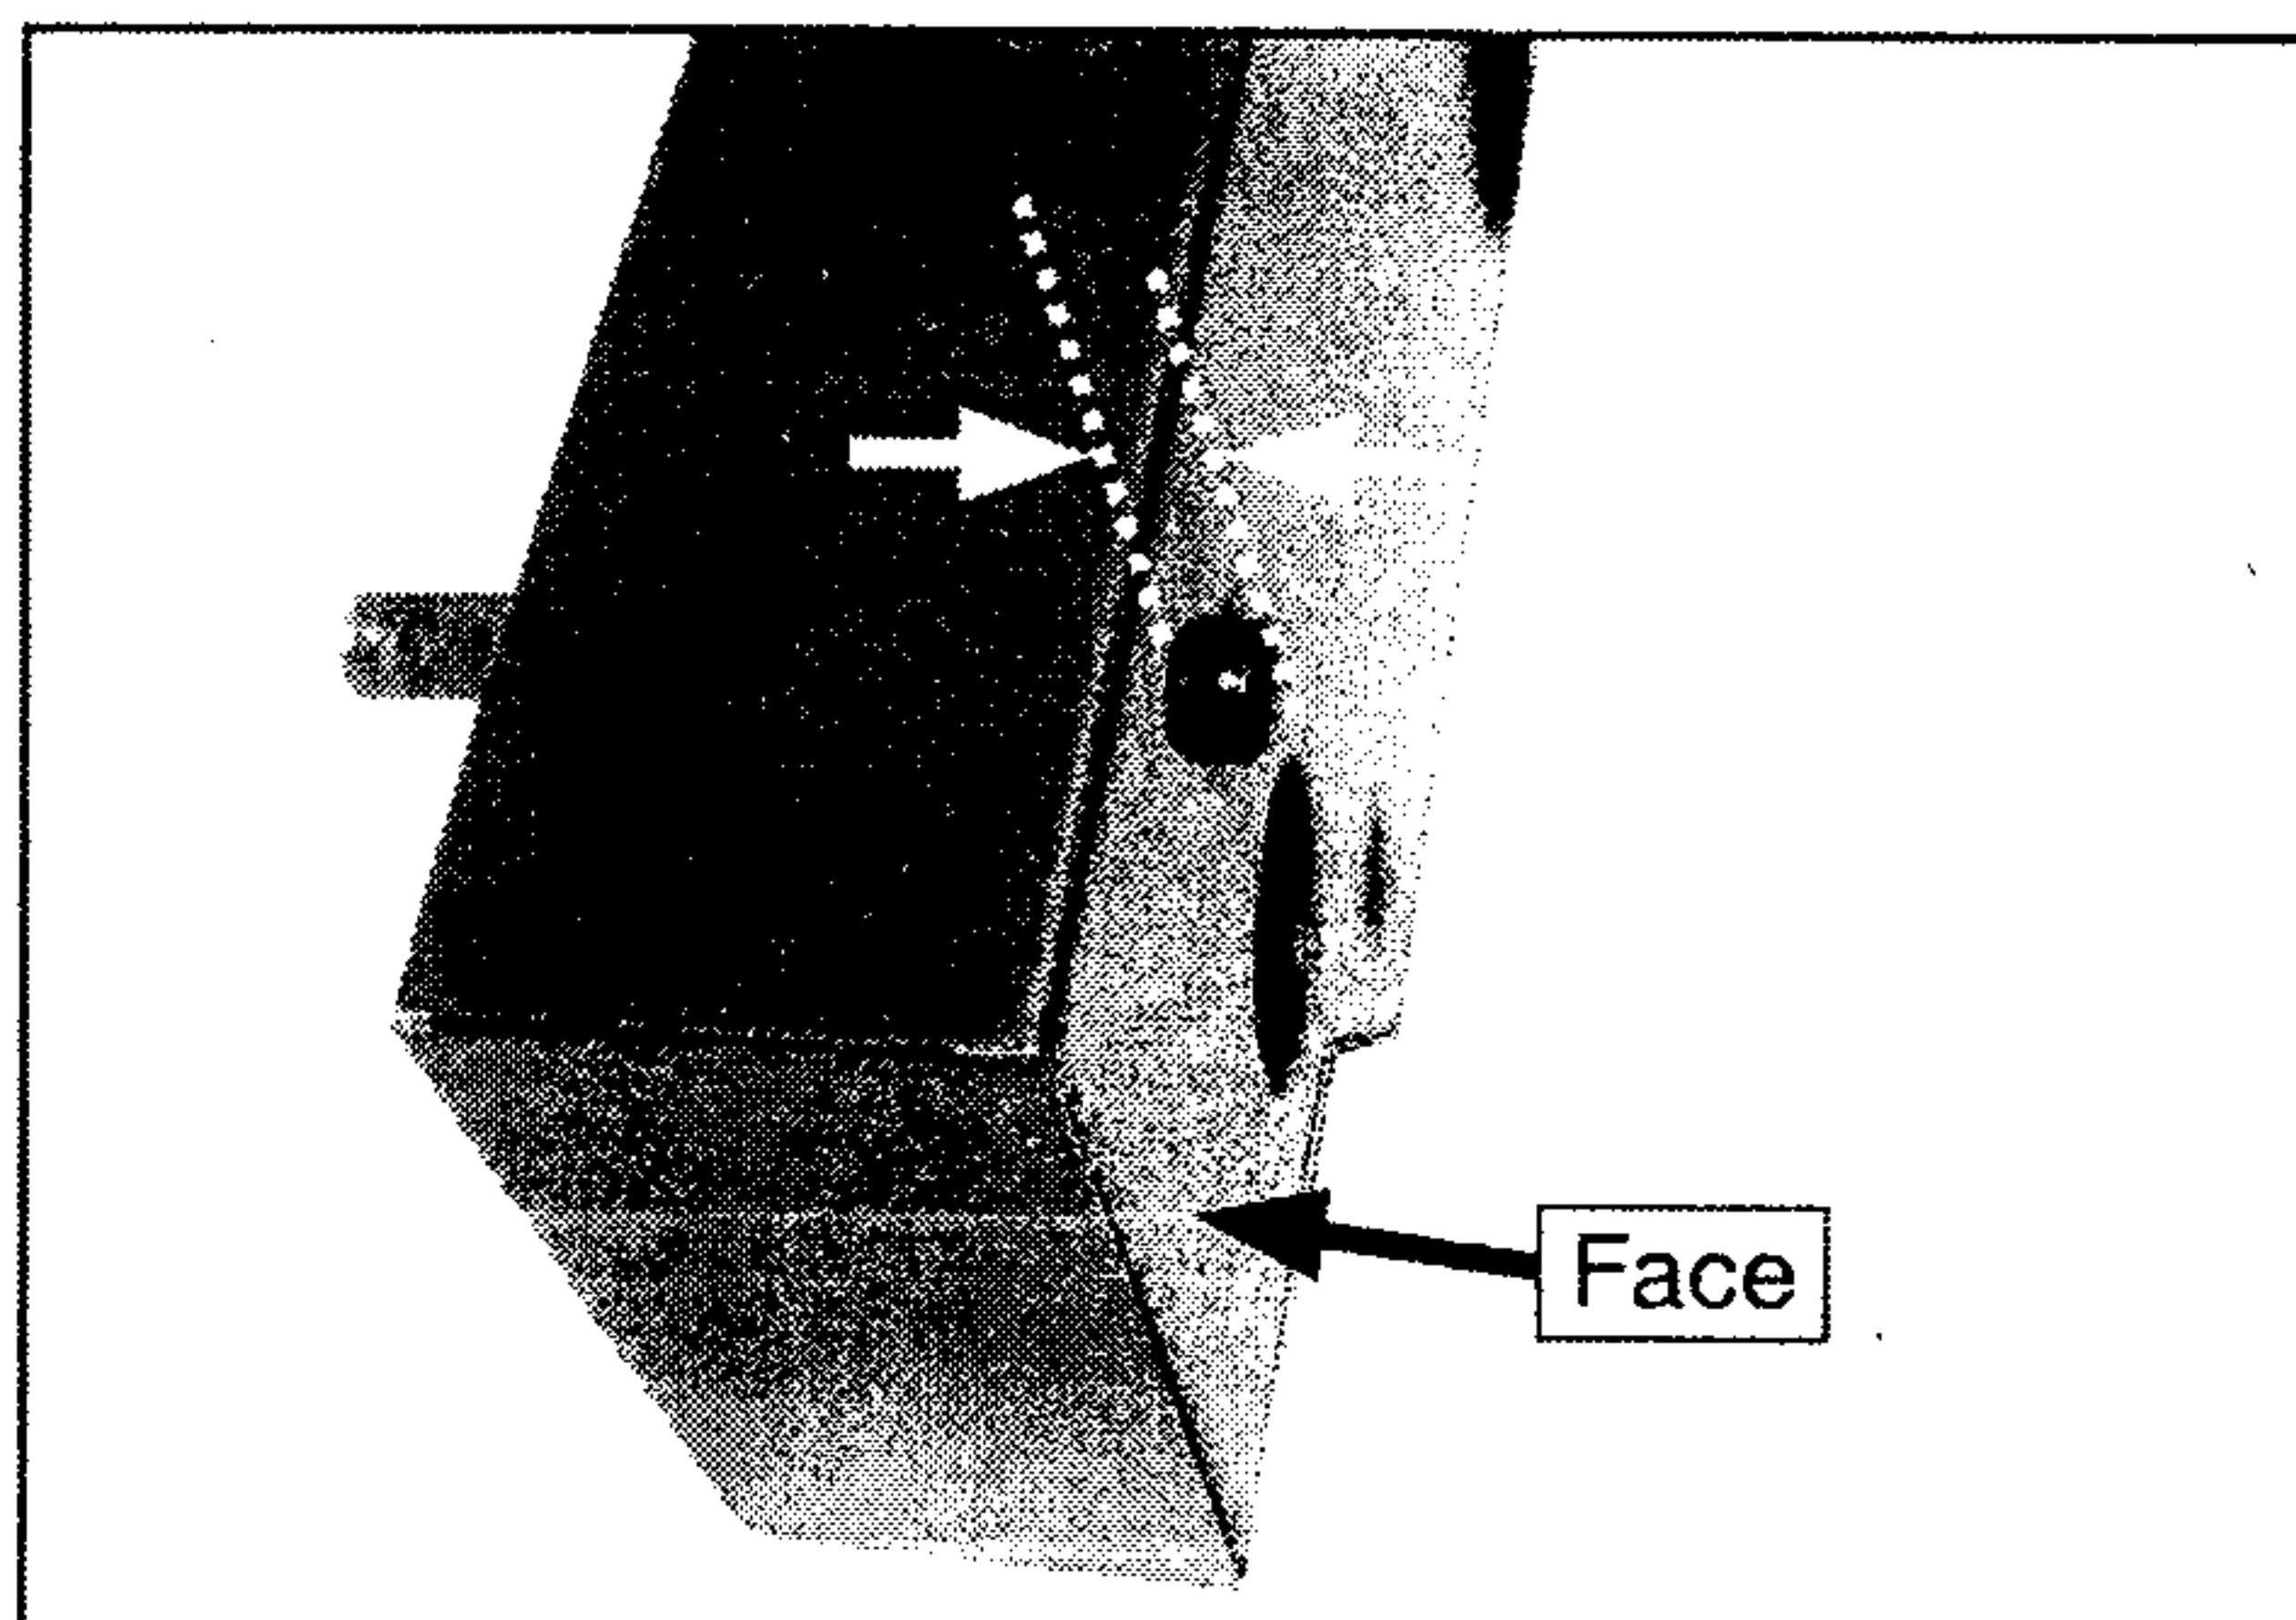

**Figure 7.** End plate removal.
11. Thread the cap screws into the power feed mounting holes (**Figure 7**), and in an alternating fashion, tighten the screws to remove the table end plate.